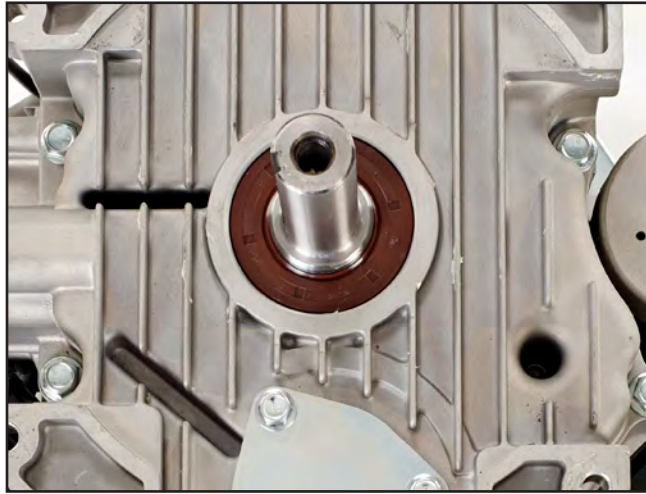

Figure 18
1. Cover the end of crankshaft with a plastic bag or use a seal protector (Figure 18).